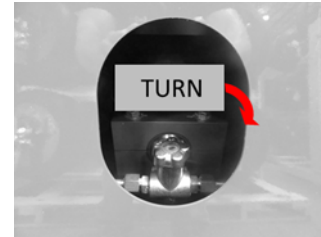

FIGURE 3 – CYLINDER MANUAL SHUT-OFF VALVE
2. Turning off a Stem Valve style valve, one should turn the valve handle clockwise until handle stops turning. (Figure 3)
**NOTE:** Use this method to turn OFF the valve on EACH tank. (Figures 3 and 4 Fuel System Cabinets figures 5 through 10 on page 3A)